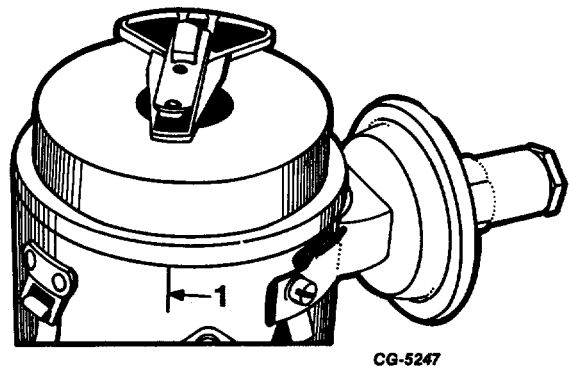

Fig. 6 Rotor Position Reference Mark
5. Scribe a mark on distributor housing in line with tip of rotor (Figure 6) and note position of rotor and distributor housing in relation to surrounding engine parts as reference points for reinstalling distributor.